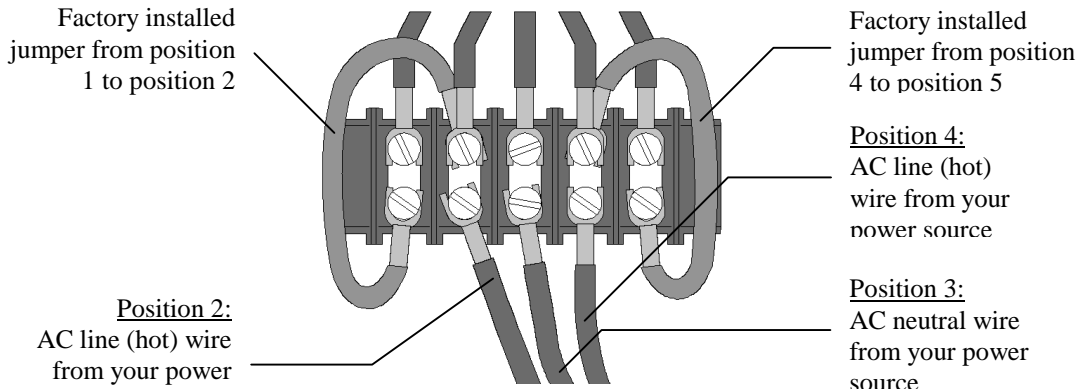

Figure 8 240 VAC Connections
4. If you are going to connect the scoreboard to a 240 VAC supply, connect one AC line wire to position 2, AC neutral wire to position 3, and the other AC line wire to position 4 of terminal strip T5 on the junction chassis according to figure 8.